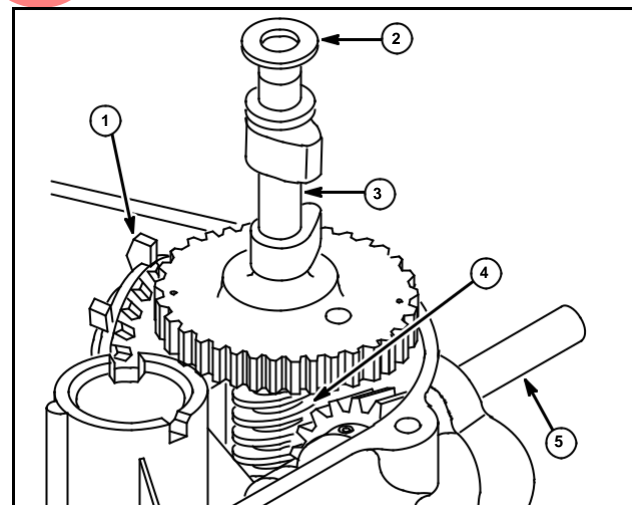

Fig. 49
This auxiliary PTO shaft (5) is perpendicular to the crankshaft. It rotates at the rate of one revolution for every 8-1/2 revolutions of the crankshaft. On these models, the cam gear (3), worm gear (4) and oil slinger (1) are supplied as an assembly and are not serviceable separately, Fig. 49.